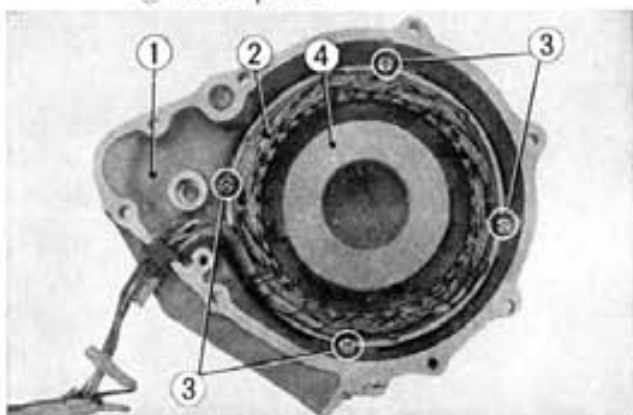

Fig. 8-6 ① Dynamo cover ③ 6mm cross screws
2. Remove the stator coil from the dynamo cover by unscrewing the four 6mm bolts (Fig. 8-6).